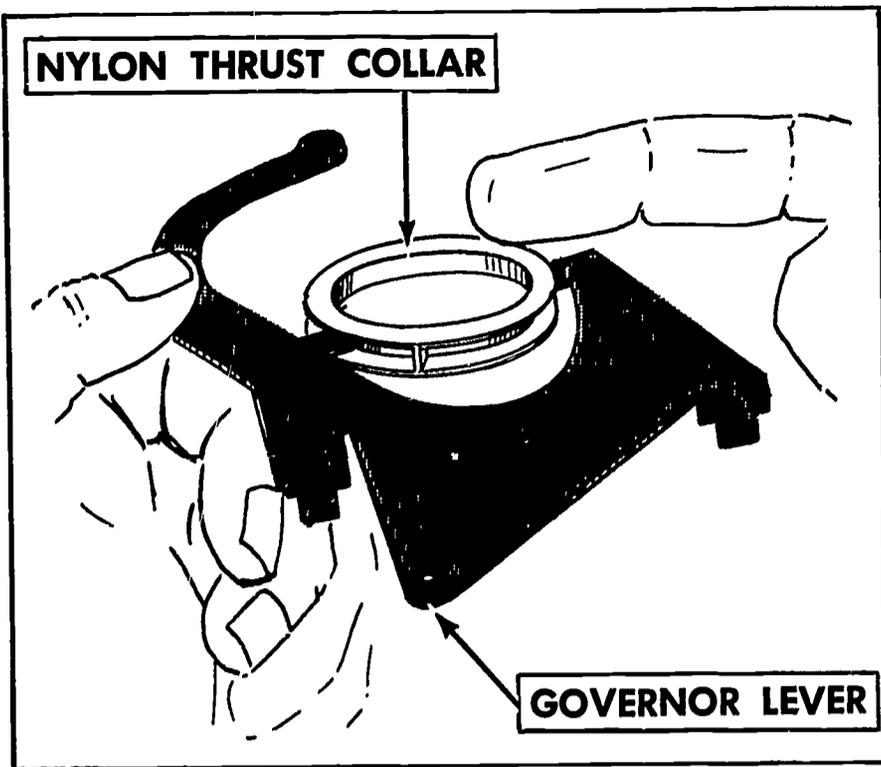

FIGURE 170. Removing the governor arm and nylon thrust collar.
4. Remove the nylon thrust collar and governor lever from the crankshaft (Figure 170).